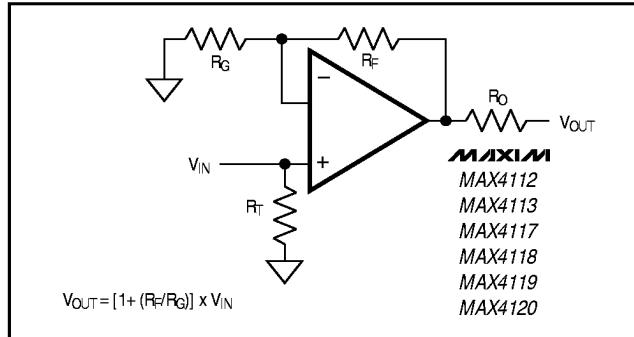

Figure 2b. Noninverting Gain Configuration
The MAX4112/MAX4113/MAX4117–MAX4120 are current feedback amplifiers. Increasing feedback resistor values will decrease peaking. Use the input resistor (RG) to change the magnitude of the gain. Figure 2 shows the standard inverting and noninverting configurations. Notice that the gain of the noninverting circuit (Figure 2b) is 1 plus the magnitude of the inverting closed-loop gain (Table 1).